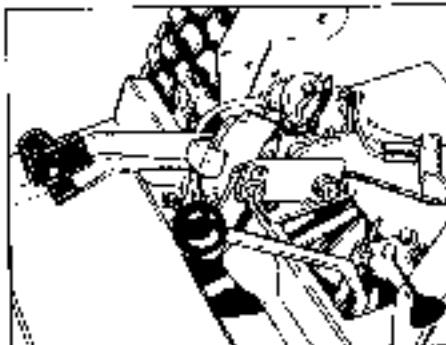

Figure 7. Lubricate the Pivot Points of the Gear Shift Lever
- Lubricate the tractor and mower as shown in figures 7 thru 13. When an oil can is pictured, wipe the area clean, apply a few drops of medium weight (SAE 30) oil and then wipe up any drips as spills. Where a grease gun is pictured, wipe the fitting clean, apply two or three shots of lithium base automotive grease, then wipe off excess grease. Keep oil off belts and pulleys.